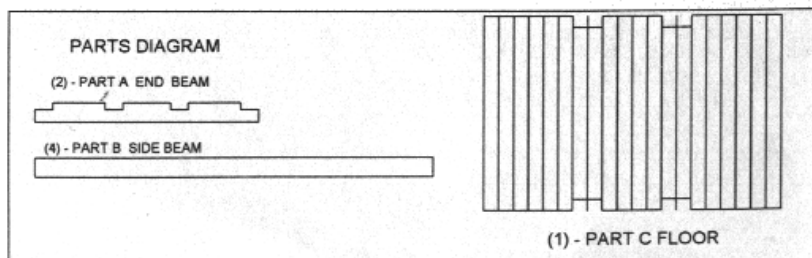

Figure 1
- 1) Find and identify the wood parts for the kit. (fig 1)